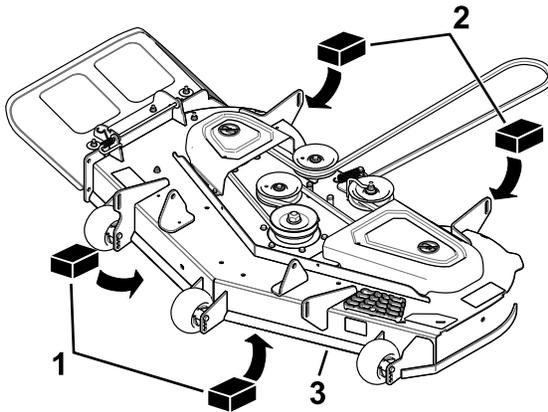

Figure 58
3. Place 2 blocks, each having a thickness of 6.6 cm (2-5/8 inches), under each side of the front edge of the deck but not under the anti-scalp roller brackets (Figure 58).
4. Place 2 blocks, each having a thickness of 7.3 cm (2-7/8 inches), under the rear edge of the cutting deck skirt, 1 on each side of the cutting deck (Figure 58).